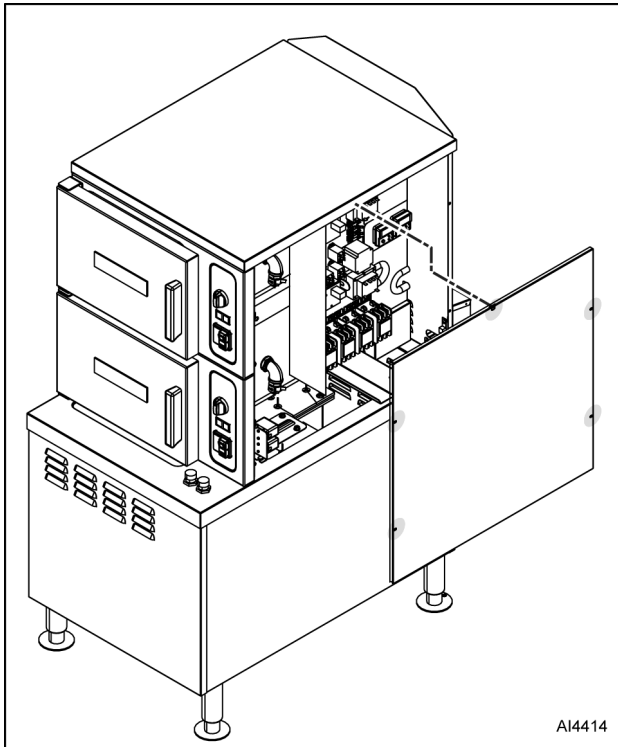

Fig. 1
1. Remove five screws from locations noted in Fig. 1.